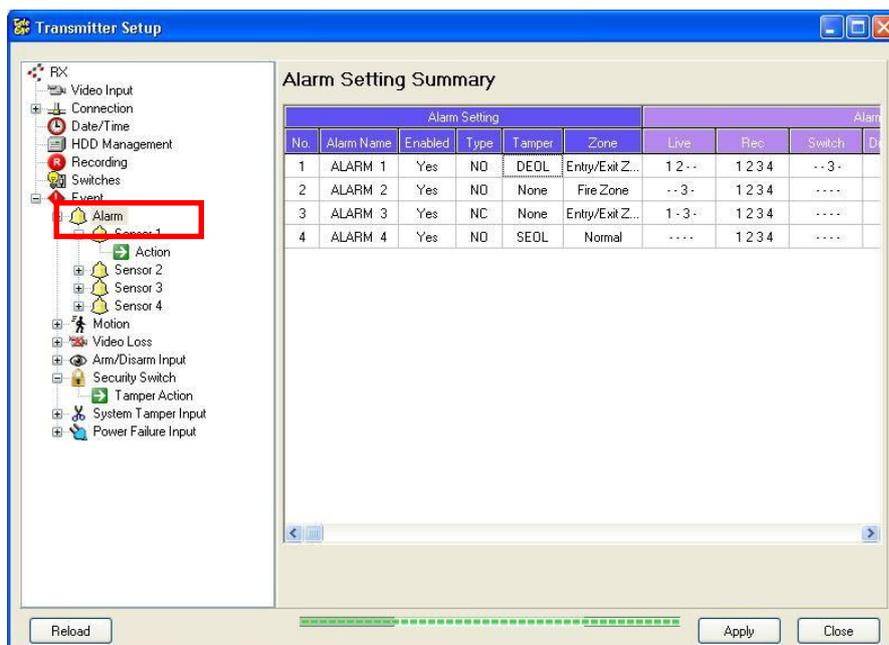

Fig 8.1.3k
Step 7 : After setting all alarms, user can view the alarm setting summary in {Transmitter Setup} panel by clicking [Event] → [Alarm] option to pop up {Alarm Setting Summary} panel as Fig 8.1.3k